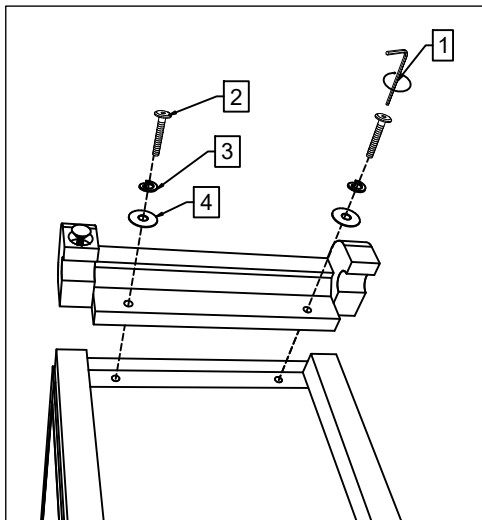

FIG. 2
3. PLACE THE BOLTS (2) THROUGH THE HOLES IN THE LEGS AND THE BASE AND THEN TIGHTEN STRONGLY WITH THE ALLEN WRENCH, AS SHOWN IN FIG. 2.